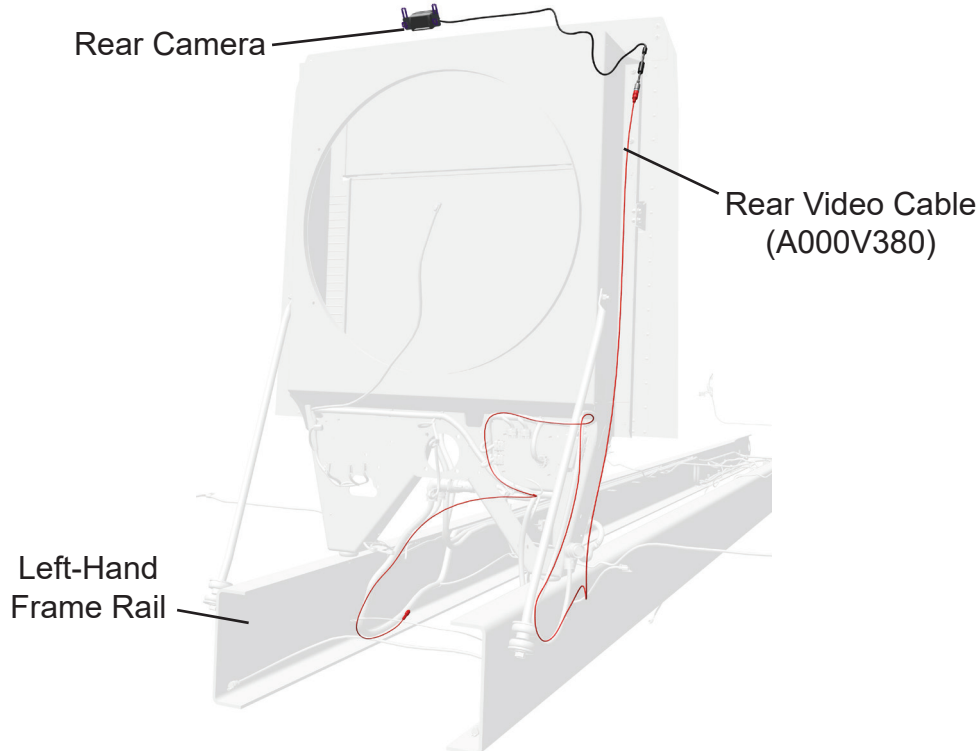

Figure 7
12. Connect female end of rear video cable (A000V380) to camera connector, see Figure 7.
13. Route rear video cable from camera connection along hood harness and cooling harness to the left-hand frame rail, see Figure 7.